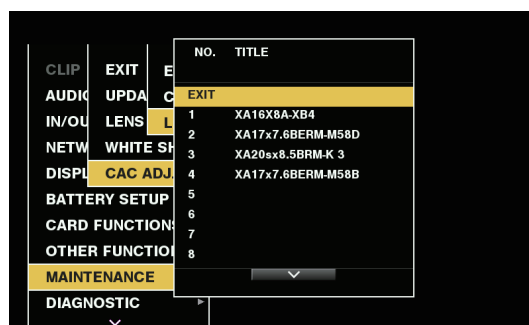

Fig. 1
- 2 In [LIST/DELETE], select the lens part no. you want to delete and press the jog dial button (or the <SET> button). (Fig. 1)